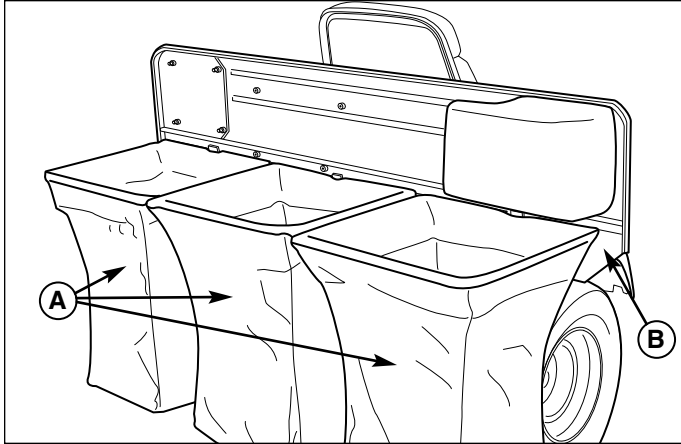

Figure 17. Bags
2. Remove the bags (A, Figure 17) by tilting them off their hooks. Empty any grass out of the bags.